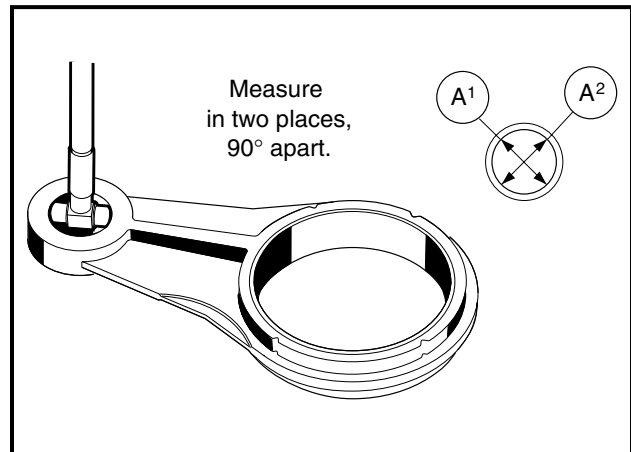

Figure 3-71 Measure Link Rod Small Bore I.D.
- 1.2. If the inside diameter of the small end is greater than 0.4746 inch (12.057 mm), replace the link rod (**Figure 3-71, Page 3-34**).